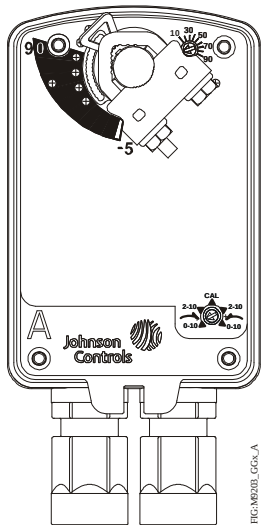
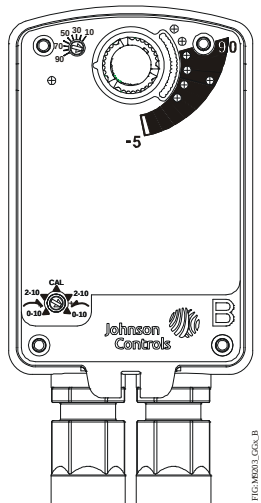

Figure 2: Actuator Side A
Figure 3: Actuator Side B
For CCW spring return direction, mount the actuator to the damper shaft so that Side A of the actuator is away from the damper as illustrated in Figure 2. With power applied, the actuator drives CW from the 0° position and spring returns CCW.
For CW spring return direction, mount the actuator to the damper shaft so that Side B of the actuator is away from the damper as illustrated in Figure 3. With power applied, the actuator drives CCW from the 0° position and spring returns CW.
The M9203-xxB-2(Z) models include one integral auxiliary switch with a switch adjuster accessible on either face of the actuator. (See Figure 2 and Figure 3.) The factory setting for the Auxiliary Switch is 11° closing (relative to the 0 to 90° rotation range as printed on the product label). See the Technical Specifications table for the auxiliary switch ratings.